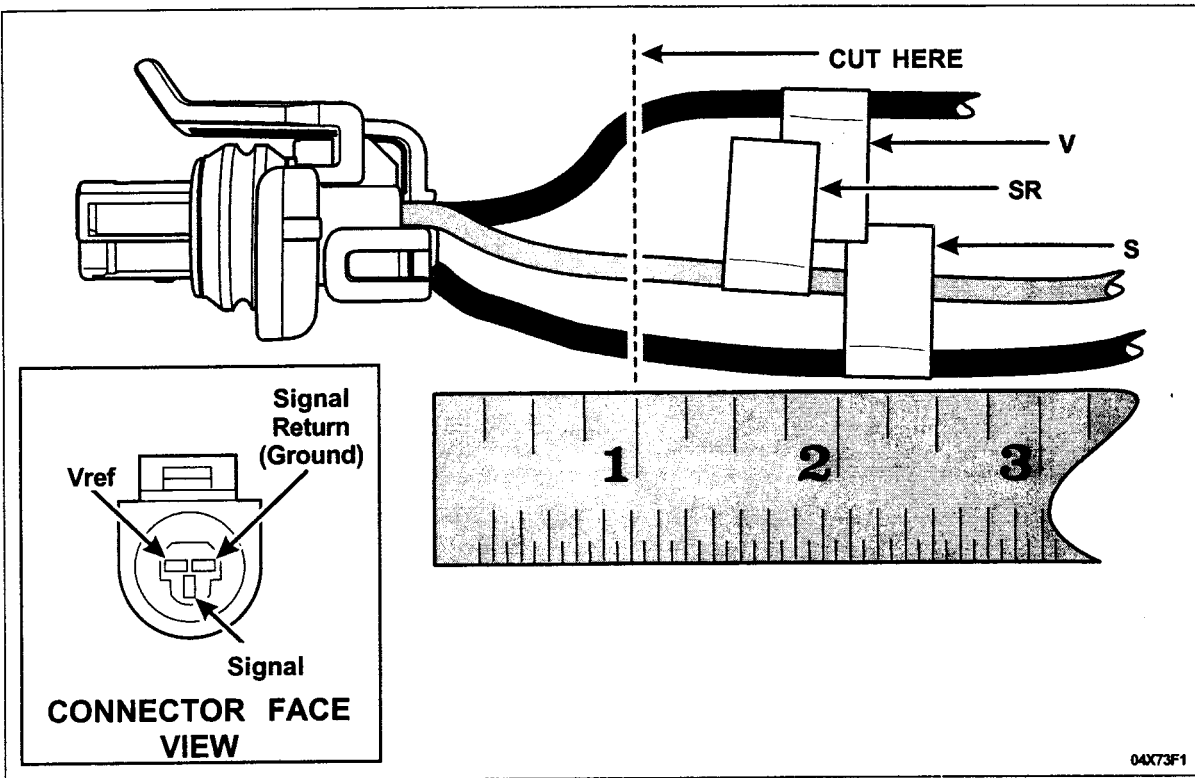

FIGURE 5
Identify each wire leading to the connector (Vref, Ground and Signal). Note the locations of each wire relative to the connector face view provided. Place the identification tags at least a few inches away from the connector. See Figure 5.
4. Cut the wires about 25 mm (1 inch) behind the connector on the vehicle harness **MAKING SURE TO LEAVE THE IDENTIFYING TAGS ON THE HARNESS** and retain the old connector for reference. See Figure 5.